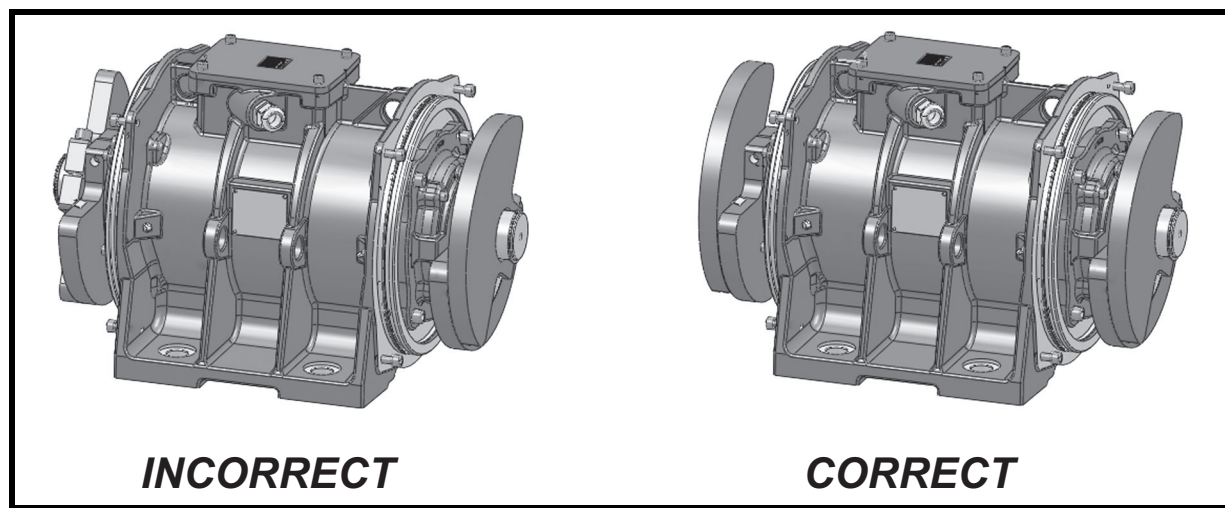

Figure 14. Setting Sets of Eccentric Weights to Mirror Images
7. Repeat steps 2 through 5 for second set of weights. Set both sets of weights to same setting number so they are mirror images, as shown in Figure 14.